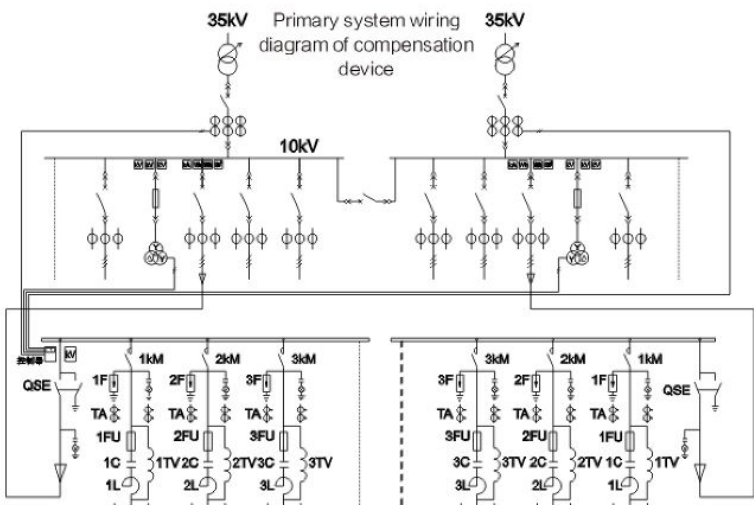

Fig. 1 Primary system wiring diagram of ZRTBBZ shunt capacitor compensation device
6.2 The primary connection mode of the compensation device: the connection mode of the compensation device is “Y” connection mode, and neutral non-grounding. For details, please refer to the primary principle wiring Fig. 1 of the compensation device.